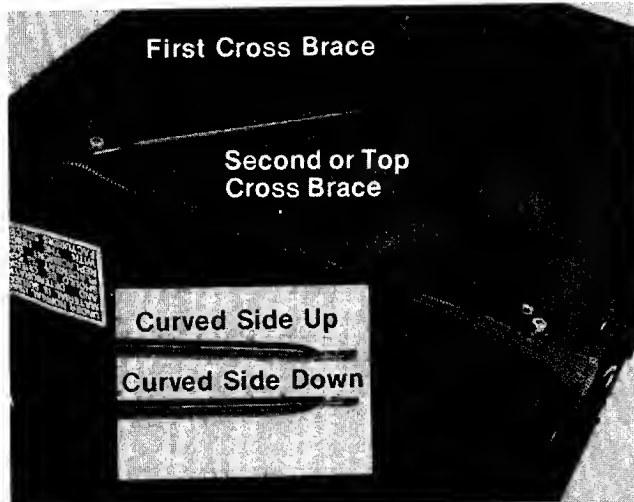

FIGURE 25.
6. Turn the grass catcher over bottom side up. Place the cross braces (AA) in position as shown in figure 25. Please note first brace will have the curved side down. The top brace will be positioned with the curved side up. See figure 25.